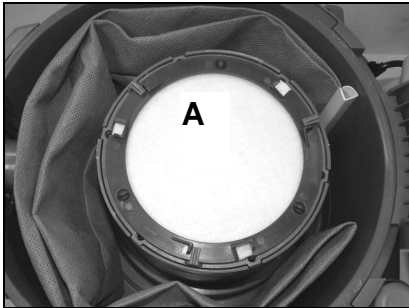

Fig 9
- The filter pad can now be removed (A in Fig 9).